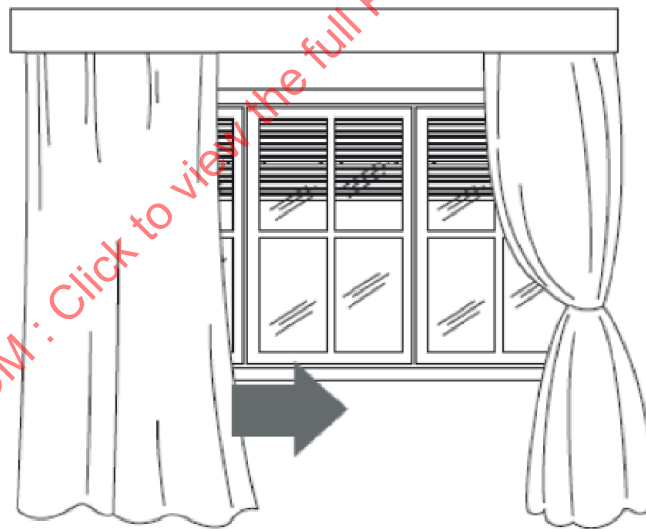

Figure G.2 — Close blinds or curtains
- Protect the room from direct exposure to the sun by partially closing curtains and/or blinds to increase performances and to make the appliance much more economical to run (see Figure G.2).